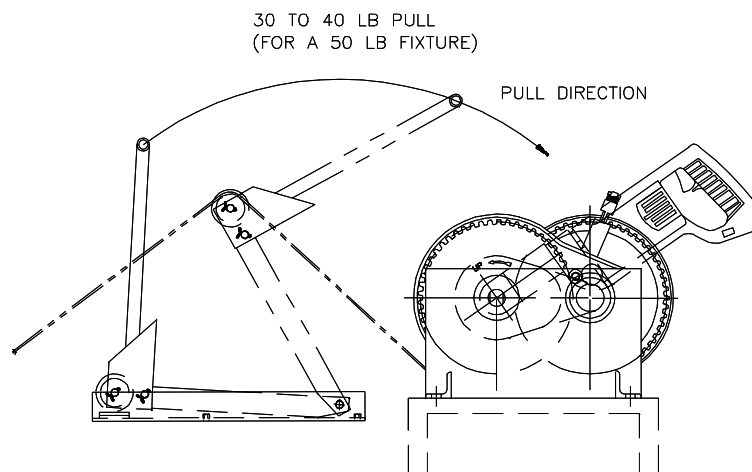

Figure 4-4. Winch and Trip Lever Handle
- (1) Set drill motor switch to the forward mode, apply power, and turn winch in the forward direction (clockwise) until a slight resistance is indicated.
- (2) Set drill motor to the reverse mode, apply power, and introduce slack in the operating cable by turning winch drum counterclockwise approximately $\frac{1}{4}$ turn.
- (3) Grasp the trip lever handle and pull back firmly with 30 to 40 pounds of force (for a 50 pound fixture [Figure 4-4]). The force required depends on the weight of the fixture.
- (4) Release (let go of) the trip lever handle and allow trip lever to suddenly fly downward and stop against the trip lever bracket (Figure 4-4). At this stage the latch is released in the hanger assembly and the two halves are separated.
- (5) Gently tug on cable leaving the mounting surface to determine cable tension.
- (3) Disengage the winch ratchet.
- (4) Using 30 to 40 pounds of force (for a 50 pound fixture), pull slowly and firmly on the trip lever handle (Figure 4-4). Stop pulling when a strong resistance is felt; indicating the unit is ready for latching.